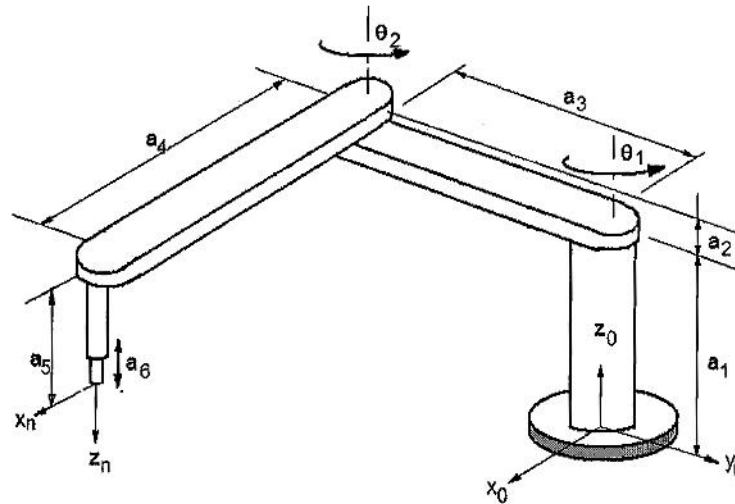

Fig. Q3
3. For the robot arm manipulator shown in Fig. Q3 do the following: